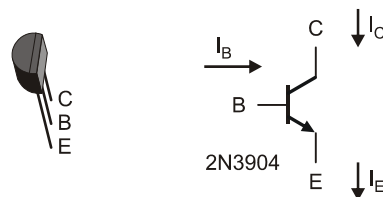

Figure 3-10
Figure 3-10 represents a typical discrete transistor. A BJT has 3 leads: Base (B), Emitter (E) and Collector (C). This transistor symbol tells us that it is an NPN.